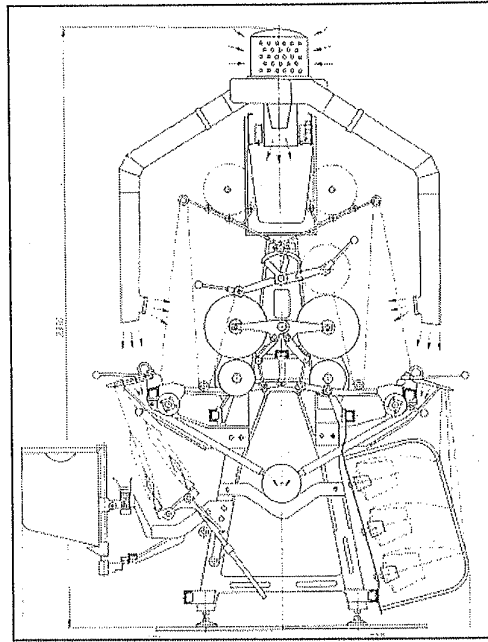

Figure 01.
- (a) Figure 01. shows a two-sided doubler winding machine. Discuss the working principle and importance of a two-sided doubler winding machine in yarn processing, highlighting how uniform tension is achieved in two different components. (07 marks)